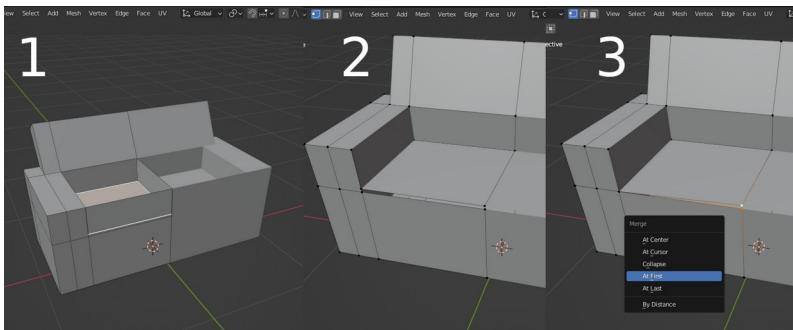

Figure 8-9 Basic extrusion and tidying up topology.
close as possible to the image showing in the UV Editor. It is much better to do this using the camera view, positioned using walk navigation, because it allows you to change the Focal Length value in the camera Object Data Properties tab. Mobile phone cameras have very short focal lengths so you probably need to reduce the default 50mm setting. Using the camera view also allows you to return to the exact same position you used to generate the unwrapping if you change the view part way through for some reason. Figure 8-9 stage 1 shows my attempt. When it's as good as you can get it, in Edit mode with select mode set to faces and all the head faces selected, run **UV ▶ Project from View**.
9. Select the two faces on the top of the backrest and extrude them upwards. Extrude the seat of the chair downwards. Now you will see the extra vertex, edges and face so delete these and fill in the gaps using the shortcut F. Use **Mesh ▶ Merge** to get rid of the gap or overlap at the front of the seat. Figure 8-9 shows the sequence and final result. Extruding the back will also insert an unseen, unwanted face and edge, temporarily disable the mirror modifier to see these and delete them. In orthographic view from the side line up the backrest to match the shape in the photo.